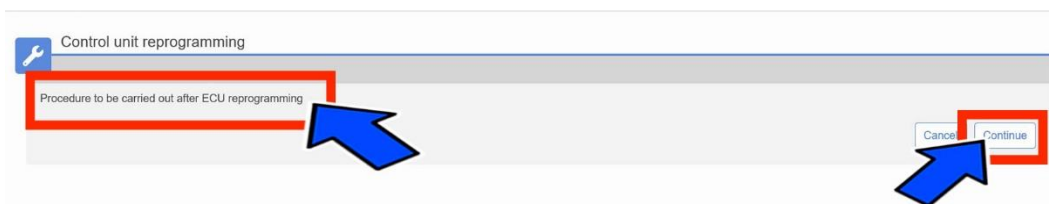

Figure 19 - Procedure to be carried out after ECU reprogramming
18. Select “Procedure to be carried out after ECU reprogramming” and then click “Continue” (Figure 19).